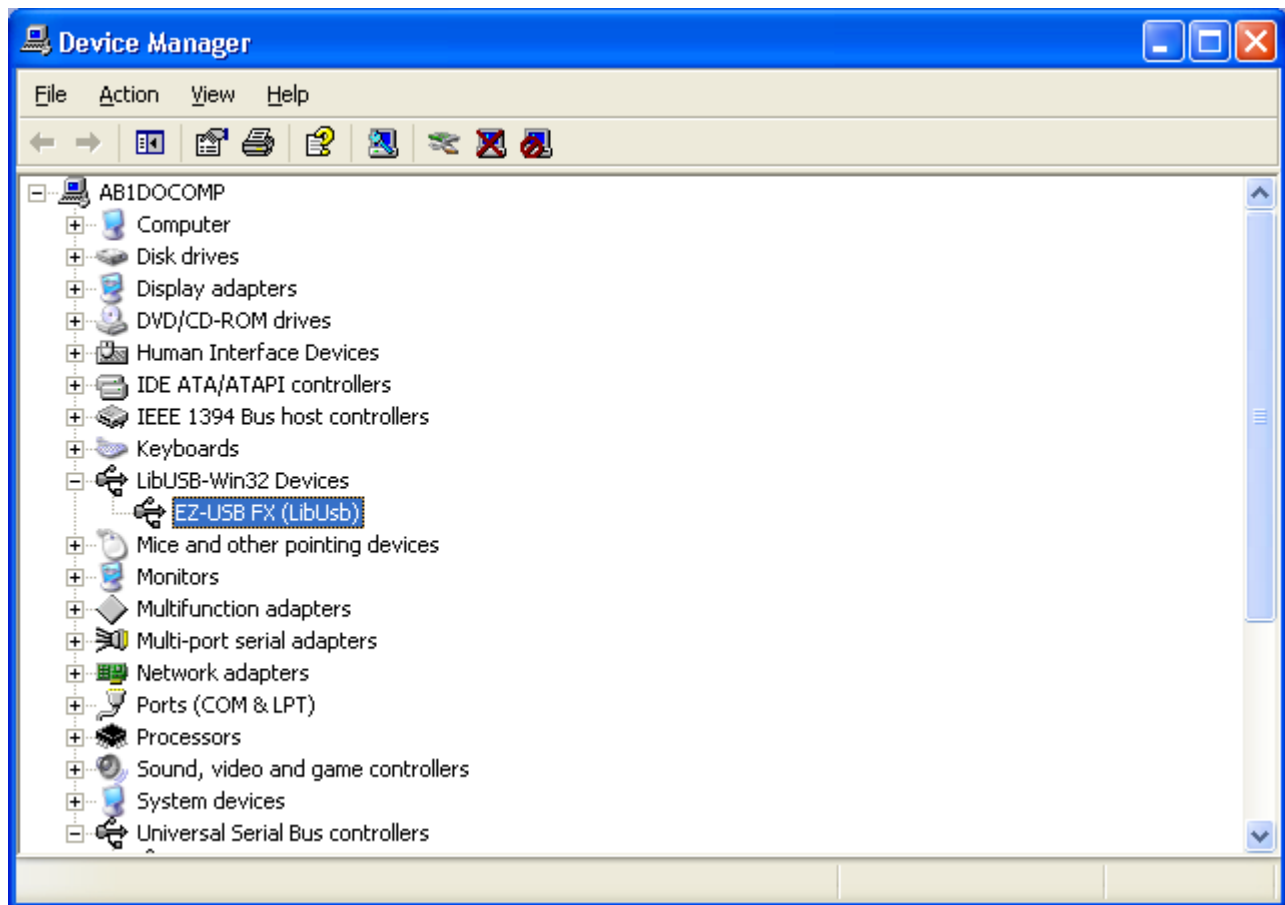

Fig 10: Device Manager Displaying Updated Driver
- The Hardware will display the new driver, EZ-USB FX (LibUsb). Click **Finish**. The updated driver will be found in the Device Manager under **LibUSB-Win32 Devices** (see Fig 10).